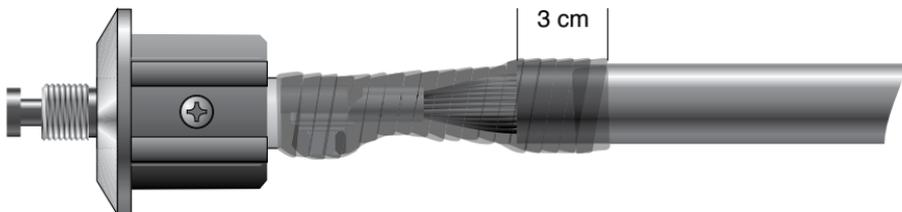

Figure 29.
9. Again using the semi-conductive tape, start stretching and wrapping over the aluminium conductor strands and connection to the lower finial connector to start building up in multiple layers. Continue wrapping the tape over the area shown to cover the last 3 cm of the black insulation, over the lower finial connector and up to the black plastic section of the mast base assembly in multiple layers, completely covering the crimp and achieving as smooth and level a surface as possible, removing all sharp edges [Figure 29].